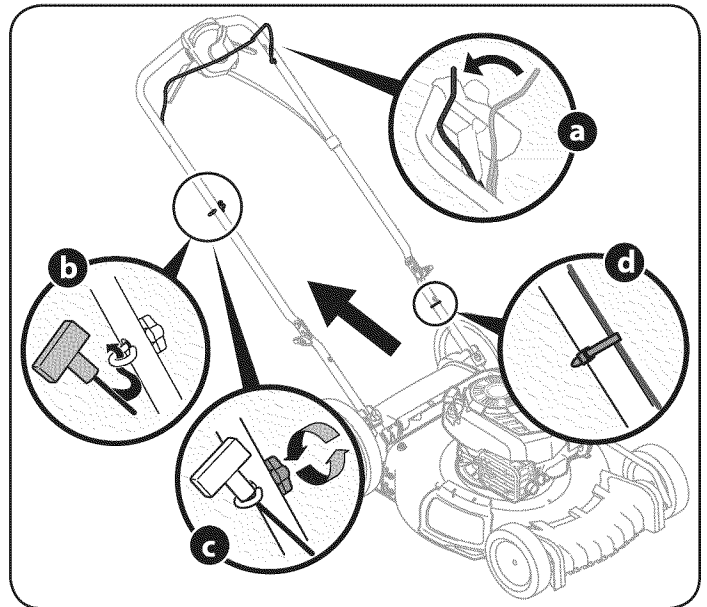

Figure 6
- b. Slowly pull starter rope handle from engine and slip starter rope into the rope guide. See Figure 6.
- d. Use cable ties provided to secure blade control and drive cables to lower handle as shown in Figure 6.